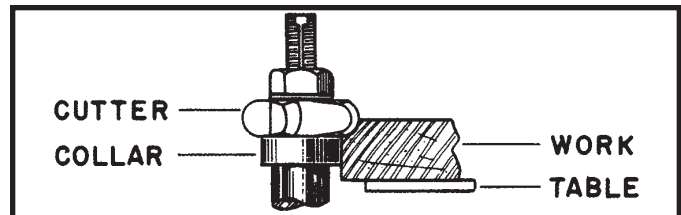

Fig. 64
2. When the collar is used below the cutter, a shown in Fig. 64, the progress of the cut can be observed at all times. However, any accidental lifting of the work will gouge the wood and ruin the workpiece.